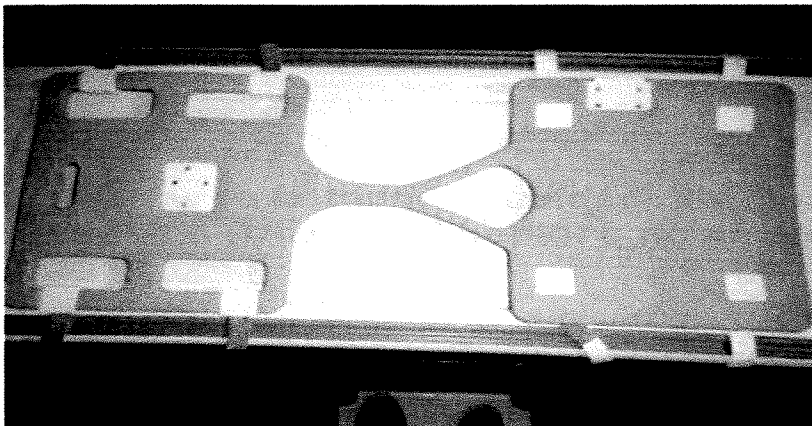

Figure 1: Initial feet-first setup prior to loading patient. Bore is to the left, and the anterior side of the coil is on the left side.
- 1) Lay the PROCURE™ coil out flat with the non-patient side down and the anterior end facing the bore (left in Figure 1)